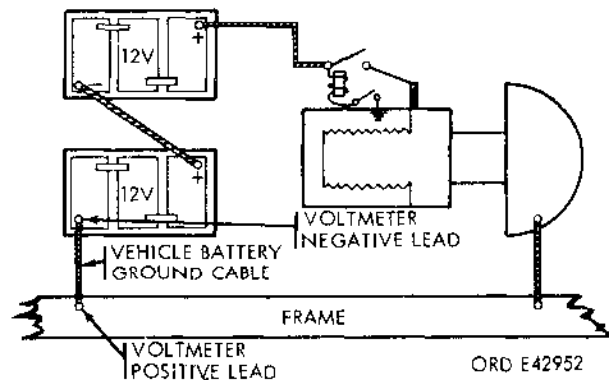

Figure 2-29. Frame-to-battery cable ground loss test.
(1) Connect the voltmeter leads to the tester. Select the 50-volt scale.
(2) Connect the positive voltmeter lead to the vehicle frame (fig. 2-29).